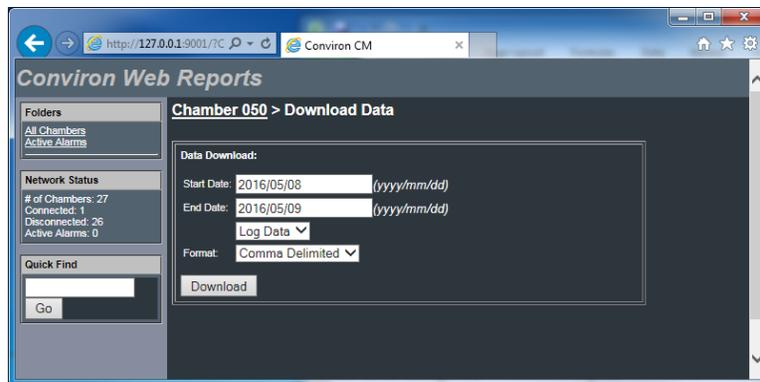

Figure 6-12 Download Data
1. On the Chamber page, select the **Download Data** link. The **Download Data** page appears (Figure 6-12).